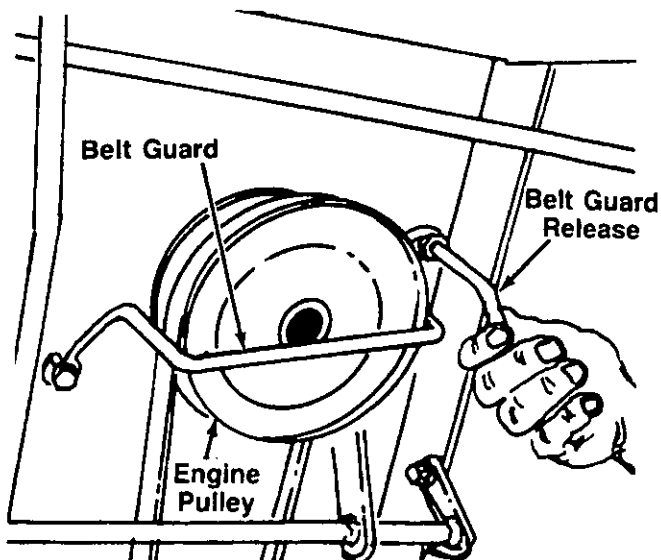

FIGURE 21.
- Unscrew the belt guard release next to the engine pulley. See figure 21.